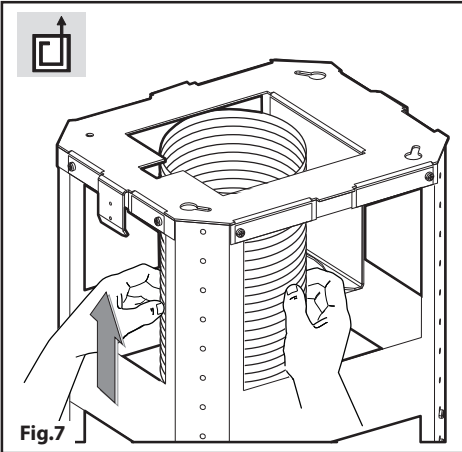

Fig.7
- **Suction version:** fix the flexible pipe to the prepared air evacuation hole (**Fig 7**).